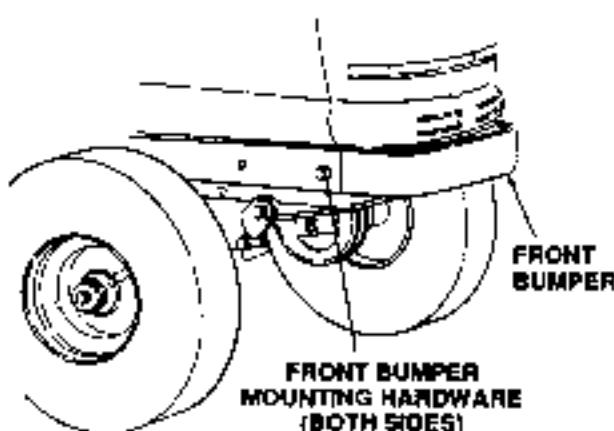

Figure 7-25. Removing Front Bumper.
1. Remove the front bumper from the frame (see Fig. 7-25) by removing the hex wash. lapp screw from each side. Store the screws and bumper for later reassembly.